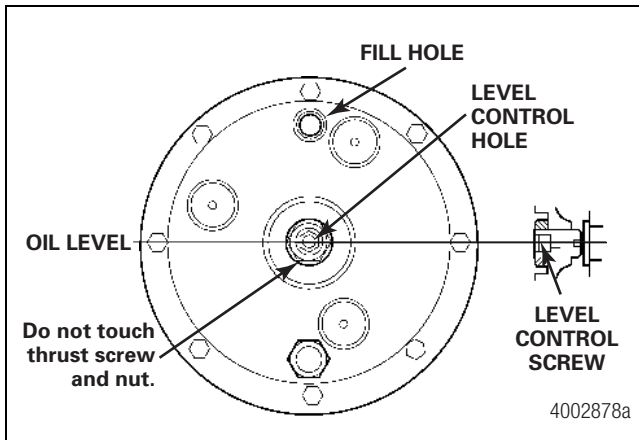

Figure 2.35
- **Revised design wheel ends:** Rotate the wheel end until the fill hole is at the TOP. Remove the oil level capscrew and copper washer located in the center of the thrust screw. Do not remove the thrust screw and lock nut. Fill until oil comes out of the level hole in the center of the wheel end. Install the copper washer and oil level capscrew. Tighten the capscrew to 8 lb-ft (11 N•m). Figure 2.35.